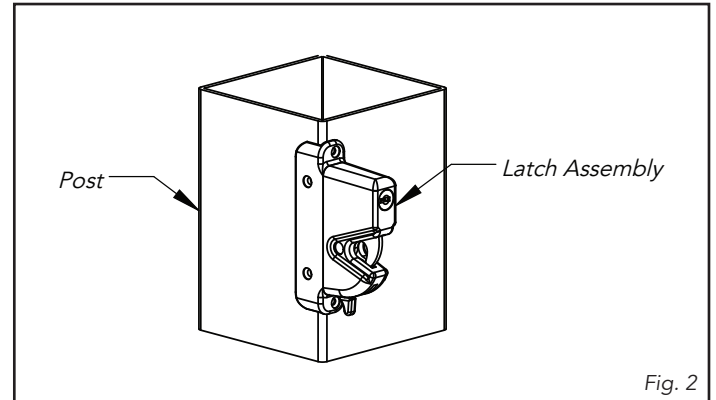

Fig. 2
2. Locate the desired mounting height for the latch assembly on the fence post. Mark the centerpoints of the four mounting holes, and drill appropriate pilot holes for the mounting screws. Realign latch and attach to post with the supplied flat head screws (Fig. 2).